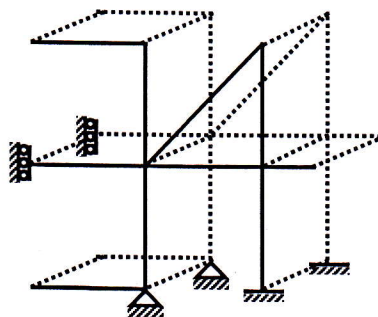

Fig. 3(b)
- Determine the degree of kinematic indeterminacy (doki) and show the corresponding deflections and rotations of the 2D frame and 3D frame shown in Fig.3(a) and Fig. 3(b), for the following cases